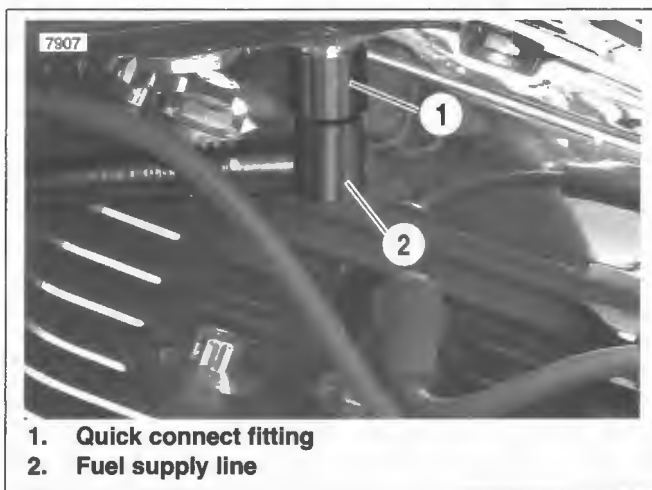

Figure 4-5. Fuel Supply Line Fitting
4. See Figure 4-5. Pull up on chrome sleeve of quick-connect fitting (1) and pull down on fuel supply line (2) to disconnect.
5. See Figure 4-5. Connect fuel supply line (2).